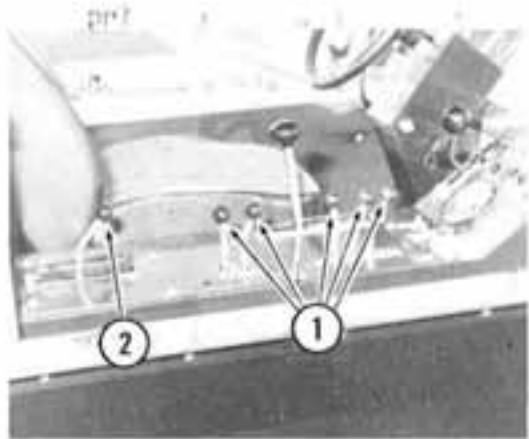

Figure 1
1. Boom control levers operate the lift, leveling, and fold cylinders (Item 1; Figure 1).
2. The solution variable flow control lever operates the solution pump hydraulic motor for spray pressure and jet agitation. The more solution pressure desired, the farther the lever needs to be moved forward. (Item 2; Figure 1).